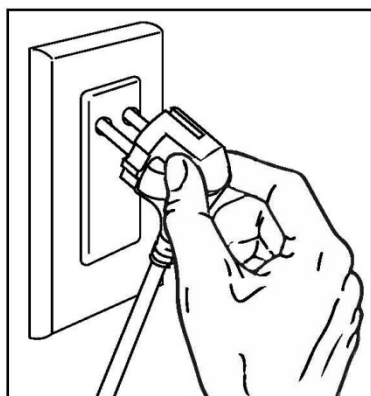

figure 1
1. Plug-in the sander's AC power cord to the power source (220VAC output). The warning " beep " sounds would be occurred after the plug is securely plug-in to the power source and the LED indicator shows " Solid Red " color at the moment.- see figure 1.